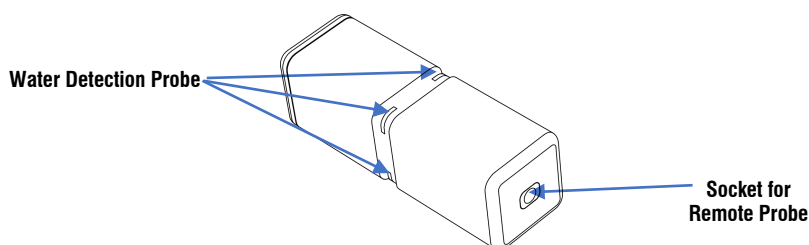

Figure 9A
- Water Leak Alarms refer to two Water Detection Probes "Built-in & Remote Figure 9A"